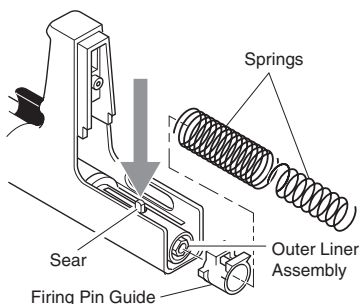
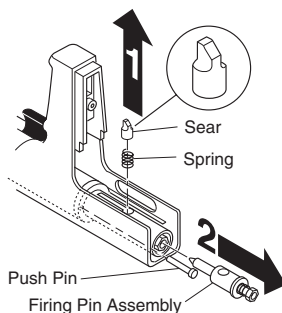

Figure 8 - Removing Springs and Pushing in Sear to Remove Firing Pin Guide
Figure 9 - Removing Sear, Spring, Firing Pin Assembly, and Push Pin
1. Remove two springs from outer liner assembly (see Figure 8).
2. Push in sear and pull out firing pin guide (see Figure 8). Line up sear with end of slot. Remove spring and sear. Remove firing pin assembly. Remove push pin (see Figure 9).